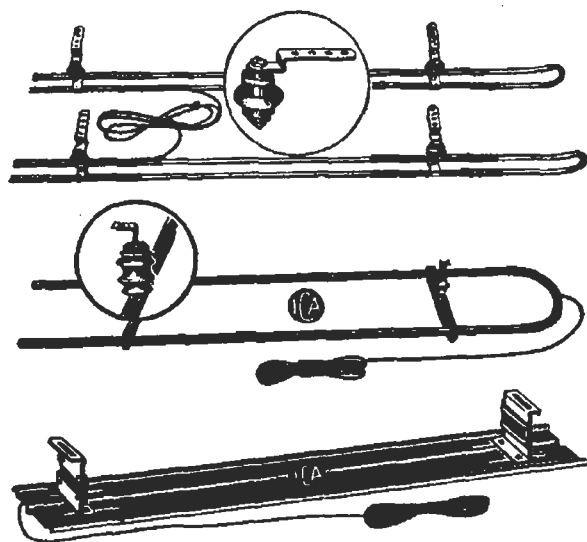

FIG. 8. Several typical antennas intended to mount under the car's running board.
**Under-Car Types.** Fig. 8 shows several different types of under-car antennas which are designed to be mounted under the running board. A number of others have been used which run between the axles.